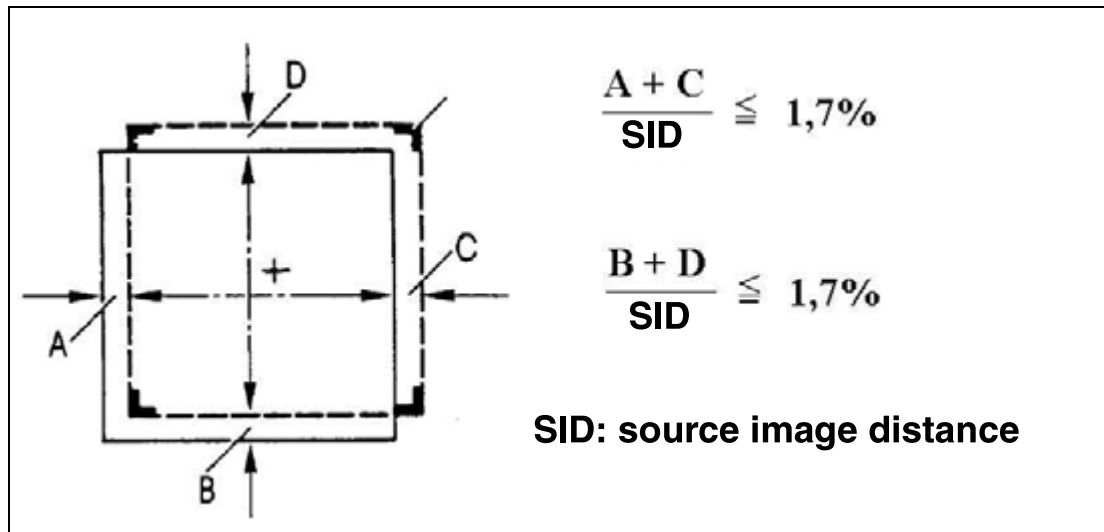

Fig. 93: Light field/radiation film
- On all four sides, evaluate the deviations (A, C and B, D) between the edges of the light field and the edges of the radiation field on the film or monitor according to (Fig. 93 / p. 95). For MOBILETT XP Digital, use the zoom function if necessary.